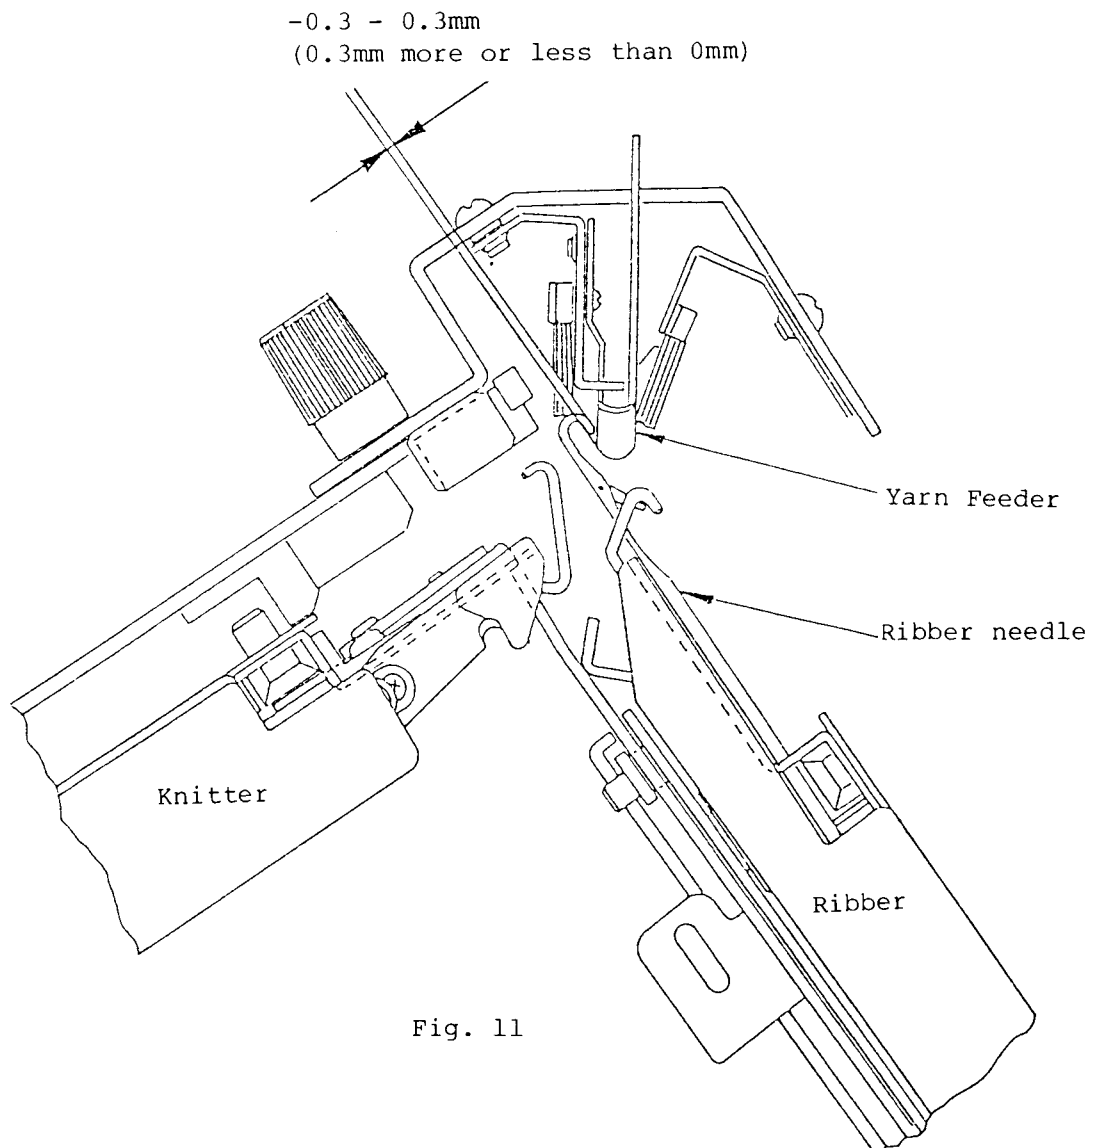

Fig. 11
- e) Referring to the Fig. 11, check visually the position of the Yarn Feeder from the side of the Arm.